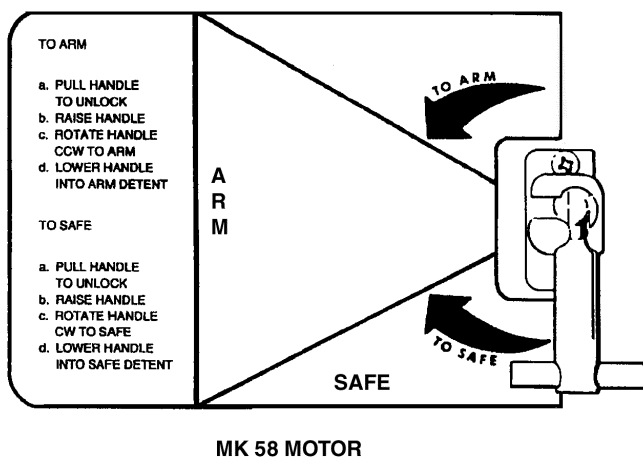

Figure 4. AIM-7 Rocket Motor SAFE/ARM Mechanism
1. Position missile SAFE/ARM mechanism to ARM (Fig. 4)()
1. Position missile SAFE/ARM mechanism to SAFE (Fig. 4)()